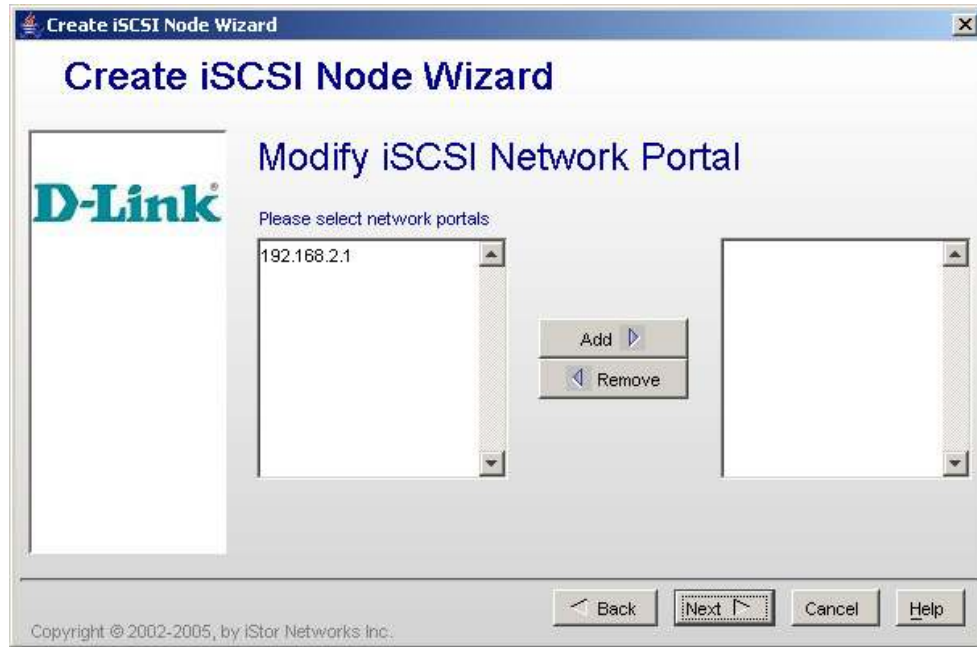

Figure 5-30. Create iSCSI Node Wizard – Modify iSCSI Network Portals Screen
6. Click **Next**. The Modify iSCSI Network Portal screen appears (see Figure 5-30).